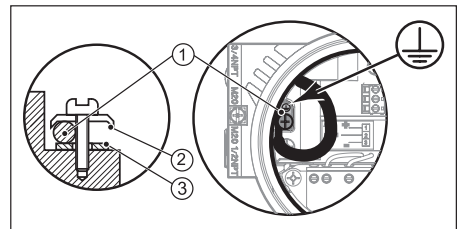

Fig.4.1 Earth wire connections
- * If required, mount earth wire (1) between top (2) and bottom (3) ring of earth wire connection (see figure 4.1).